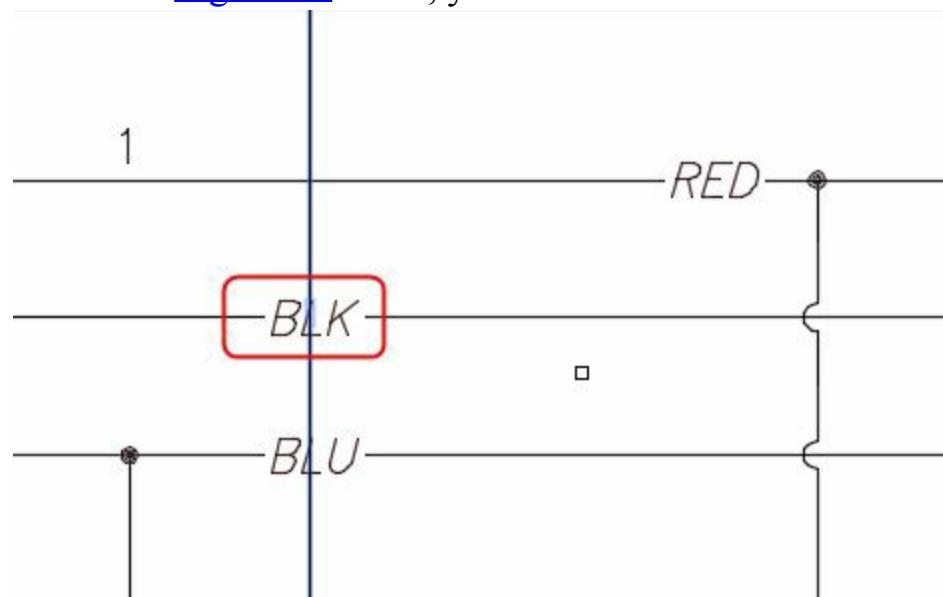

Figure-29. Reference line for selected component
- Select the component. The reference line will be created from the center of the selected component; refer to Figure-29. Also, you are asked to selected the to be aligned components.